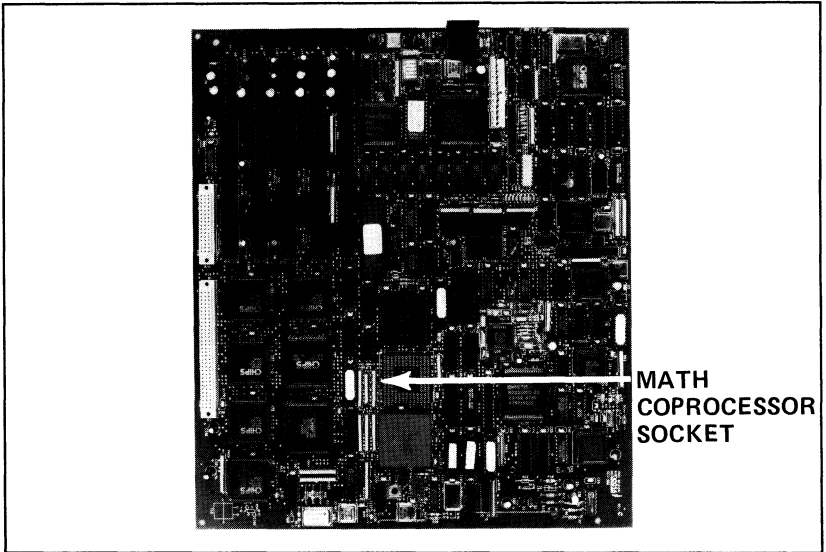

Figure 2-5. Location of the Math Coprocessor Socket
2. Locate socket U65 on the motherboard (Figure 2-5).